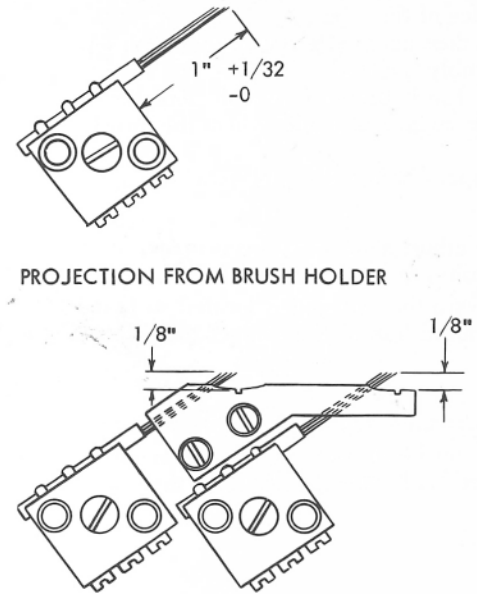

Figure 22. Carriage Tape Brush Projection
1. Position the tape brushes for $1" + \frac{1}{2}" - 0"$ projection from the brush holder (Figure 22). CAUTION: The range of adjustment should be held as close as possible because of possible difficulties in timing the stop brushes to the E1 brush.